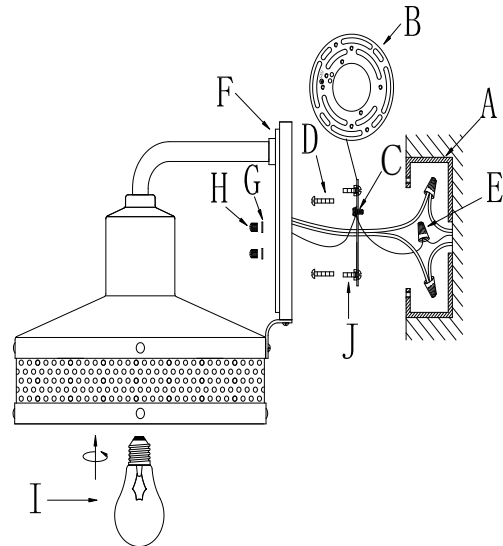

Fig.2
## CONNECTING THE WIRES (Fig. 2)
4. Connect electrical wires as shown in Fig.2 making sure that all wire connectors (E) are secured. If your outlet box (A) has a ground wire (green or bare copper), connect fixture's ground wire to it. Otherwise, connect fixture's ground wire directly to circular strap (B) using green screw (C) provided.
5. Tuck wire connectors neatly into the outlet box (A).